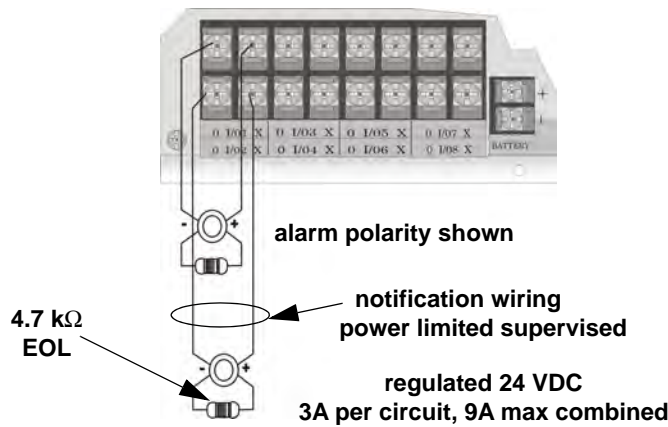

Figure 4.37 Class B Notification Appliance Circuit Wiring
1. Wire Class B Notification appliances as shown in Figure 4.37.